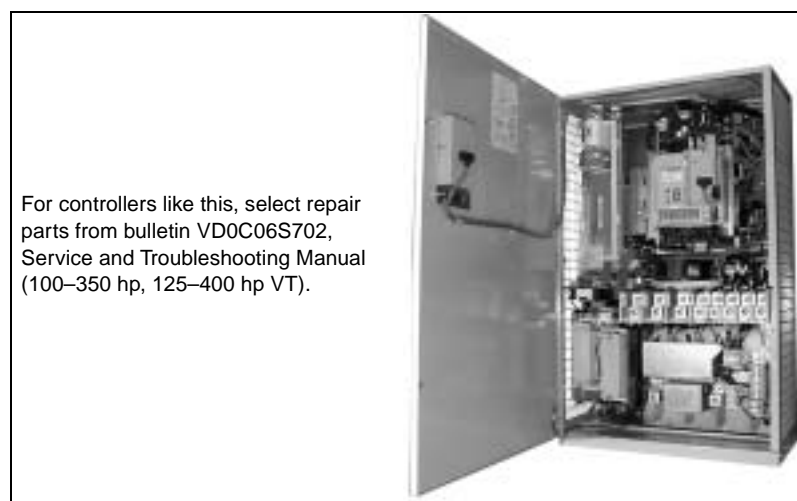

Figure 1: ATV66C10N4–C19N4: Shipped On or Before May 31, 1998
- If the serial number does **not** have a “1” as the seventh digit, consult bulletin VD0C06S702 for repair parts. These are drive controllers that shipped on or before May 31, 1998. They are illustrated in Figure 1.